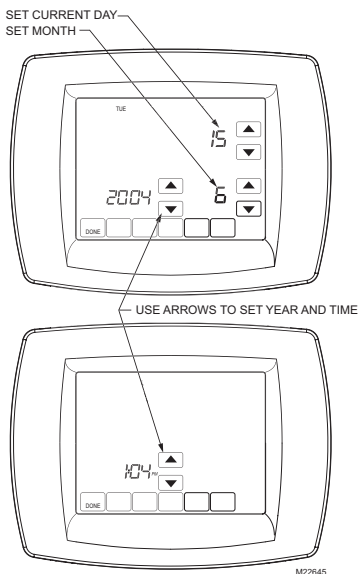

Fig. 11. Setting calendar and time after initial powerup.
This comfort control is designed to automatically keep current time and day in memory for up to ten years under normal use after calendar is set. When comfort control is first powered, display is ready to enter calendar date. See Fig. 11.
1. Use arrow keys to set Year, Month and Day (see Fig. 11).
3. Use arrow keys to set current time. See Fig. 11.